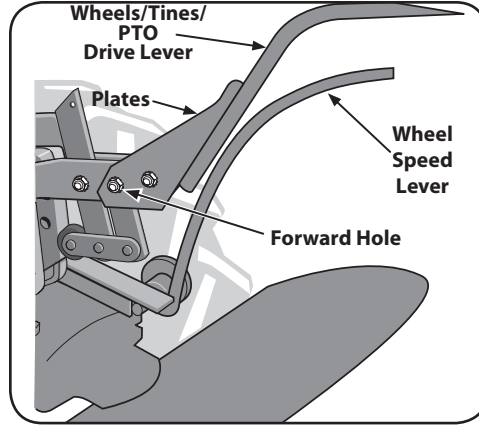

Figure 3-7
3. Slide the plates at the end of the Wheels/Tines/PTO Drive Lever over the yoke plates. See Figure 3-7. To aid in the next step, insert a screw temporarily into the forward most holes of the yoke plates and the lever.